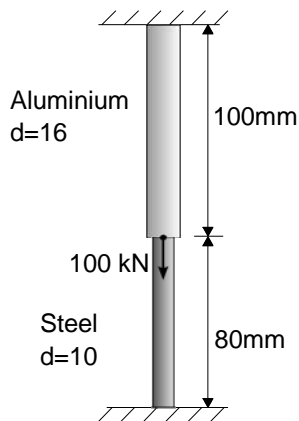

Figure 1
- Two dissimilar rods are connected together and loaded as shown Figure 1. Using the stiffness matrix approach, calculate the displacement at the interface and the forces at the supports. $E_{\text{steel}} = 200 \text{ GPa}$, $E_{\text{aluminium}} = 70 \text{ GPa}$.